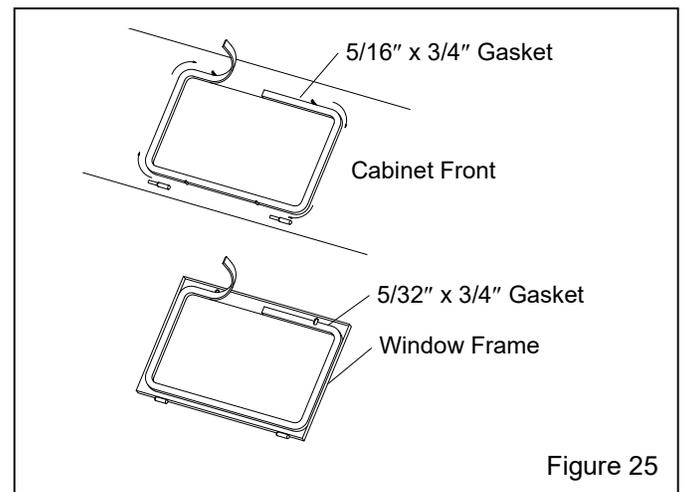

Figure 25
7.5 Window-Gasket Replacement – Figure 25
7.5.4 Peel a short section of adhesive backing from the 5/16"-thick strip gasket and adhere the gasket to the center of the top edge of the window opening, as shown in Figure 25. Peel additional backing as needed and work the strip around the radius of each corner, pressing it firmly to bond. Trim the gasket to fit and compress the ends to seal.